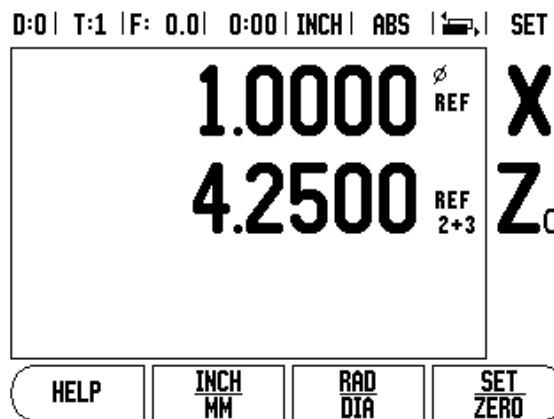

Fig. II.4 Enabling Z Coupling
- ▶ Press the numeric keys associated with the encoder input on the back of the unit. Press the **+** or **-** soft keys to couple a second input with the first. The input numbers are displayed next to the axis label indicating that the position is a coupled position (i.e. "2 + 3"). See Fig. II.4.
To couple the Z0 and Z axis and have the result displayed on the Z0 display, press and hold the Z0 key approximately 2 seconds. The sum of the Z positions will be displayed on the Z0 display and the Z display will be blanked. See Fig. II.4.